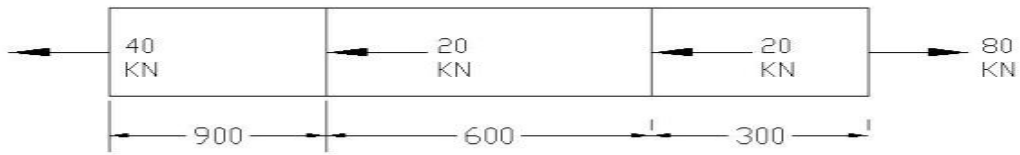

Fig. 1
(B) A steel rod of 12 mm diameter is subjected to forces as shown in Fig. 1. Find the total elongation of the rod. **07**
- Q-4 Attempt all questions (14)**